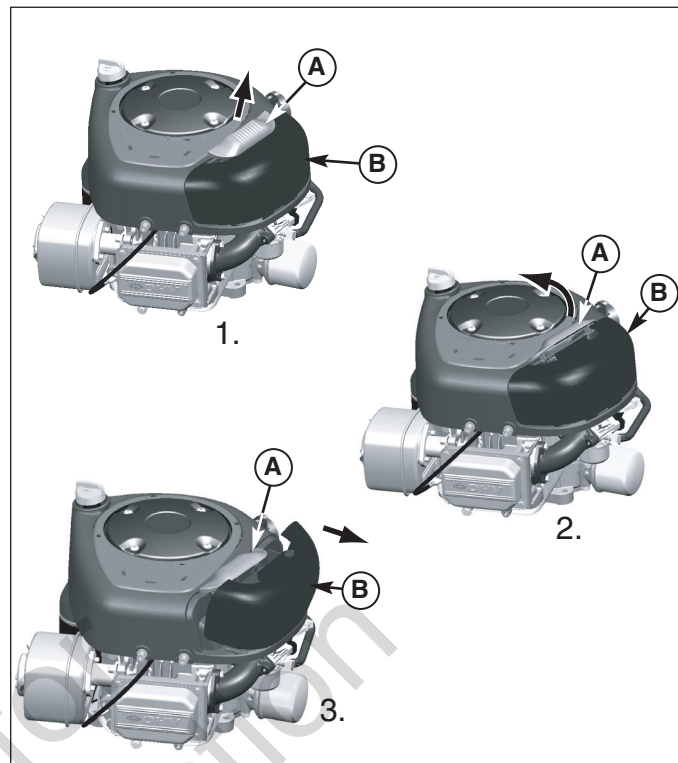
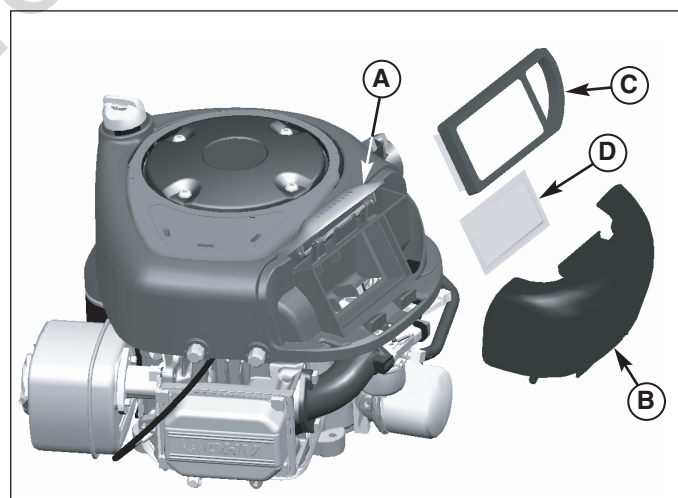

Figure 29. Air Filter Assembly - Briggs & Stratton Single Cylinder Models
Figure 30. Air Filter Service - Briggs & Stratton Single Cylinder Models
1. Lift up on the air filter latch (A, Figure 29).
2. Rotate the air filter latch (A) to the inside.
3. Pull air filter cover (B) out and off.
4. Lift air cleaner (C, Figure 30) and pre-cleaner (D) if equipped, from blower housing
5. Install the pre-cleaner (D) with the mesh side up. Install the filter (C) as shown.
6. Install the cover (B) making sure the tabs are inserted into their slots. Secure with the latch (A).